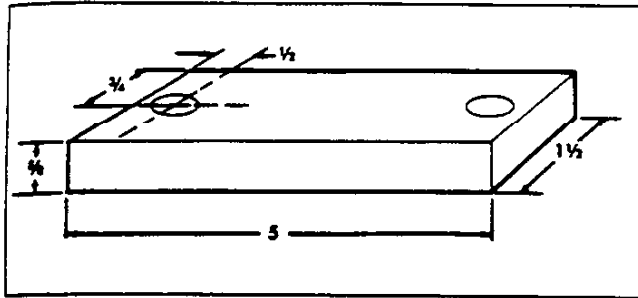

Fig. 28—Flaring Tool Back-Up Plate
7. Out of $\frac{5}{8}$ " thick steel plate $1\frac{1}{2}$ " wide make flaring tool support to the dimensions shown in Figure 28 and drill clearance holes as shown for $2-\frac{1}{2}$ " bolts.